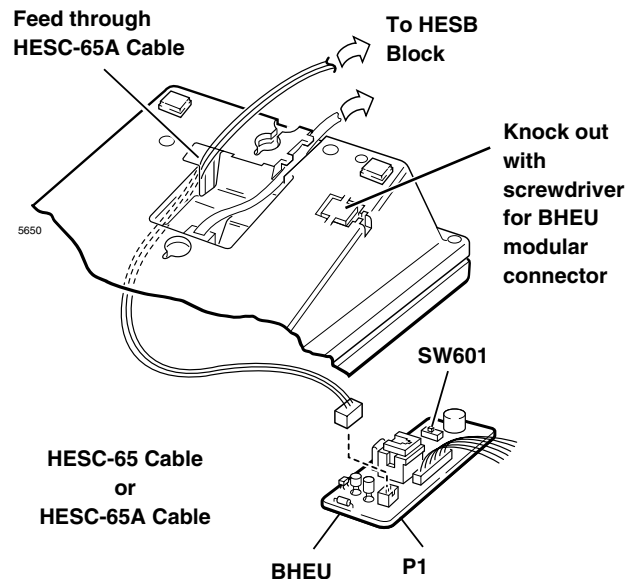

Figure 12-17 HESC-65A Cabling
3. Install a BHEU PCB and HESC-65A cable per Figures 12-17 and 12-18.
1. Loosen the four captive screws on the telephone base, and remove the base. Use a screwdriver or other suitable tool to remove the plastic tab on the back of the base. (The HESC-65 cable connector is accessed through this opening. See Figure 12-17.)
6. Connect the HESC-65A cable to the HESB (see Figure 12-17).